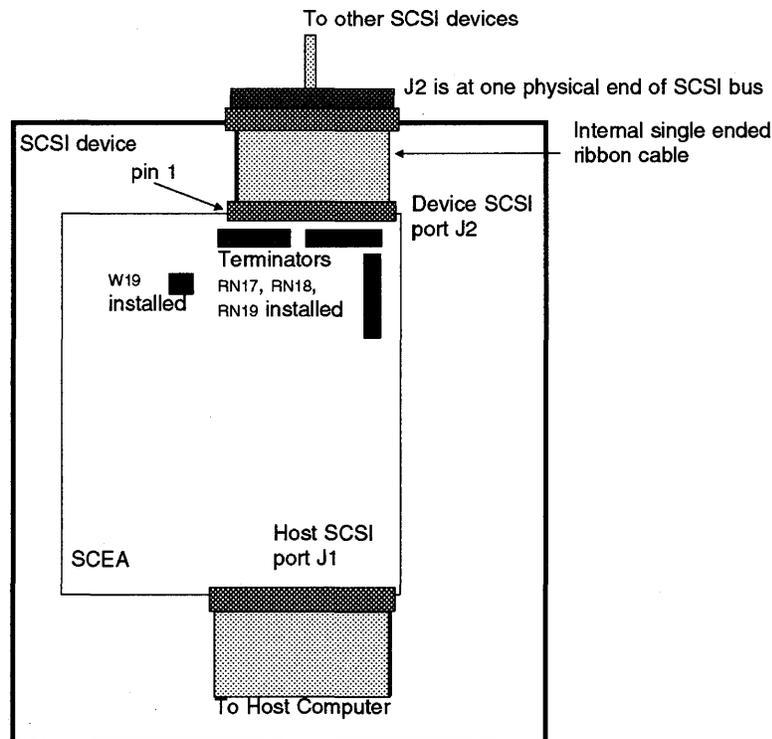

Figure 3-9: Device SCSI port termination
Remove the three (3) terminators in locations RN17, RN18, and RN19, next to J2 on the SCEA. W19, TERMPWR, may be removed if another device is supplying terminator power. See Figure 3-9.